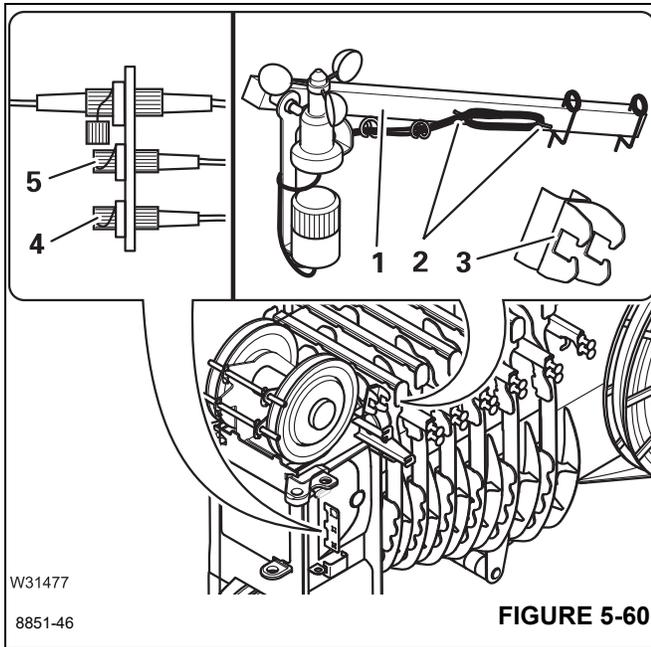

FIGURE 5-60
- Remove the plug and close the sockets (4), (Figure 5-60) and (5), (Figure 5-60) with the protective caps.
- Wind the cables onto the holders (2), (Figure 5-60).
- Remove the rod (1), (Figure 5-60) from the holder (3), (Figure 5-60).
- For transportation, fasten the retaining pins to the rod (1).